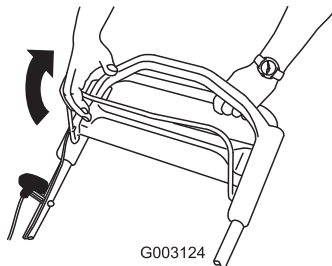

Figure 21
2. Pull the blade-control bar to the handle (Figure 21).